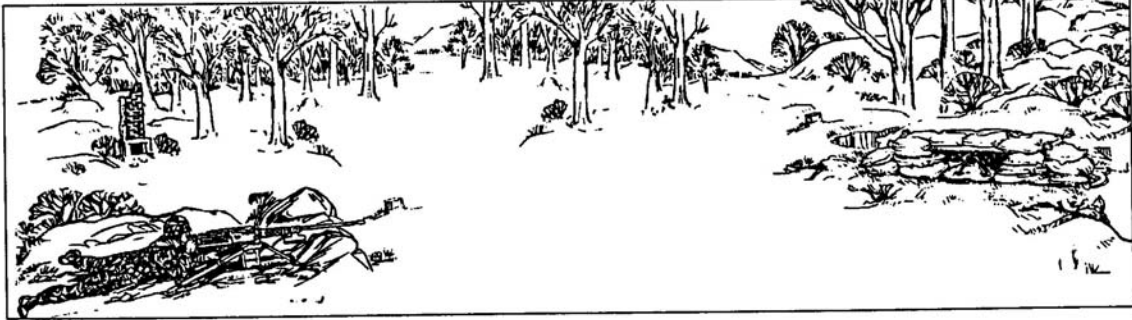

Figure 9. Point target.
- (1) Point target. Engage point targets with fixed fire using a single aiming point (Figure 9).